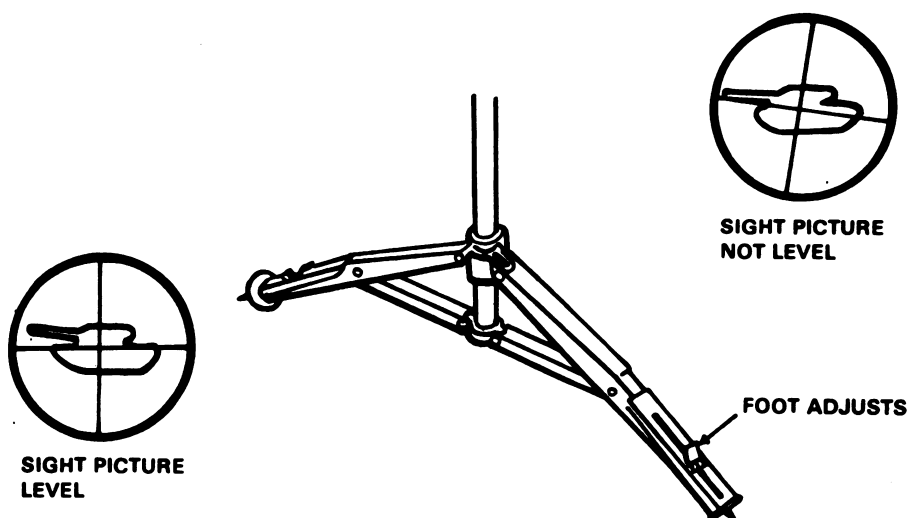

Figure 10
10. Adjust the bipod friction lock and the foot adjusts to obtain a level sight picture (fig. 10).